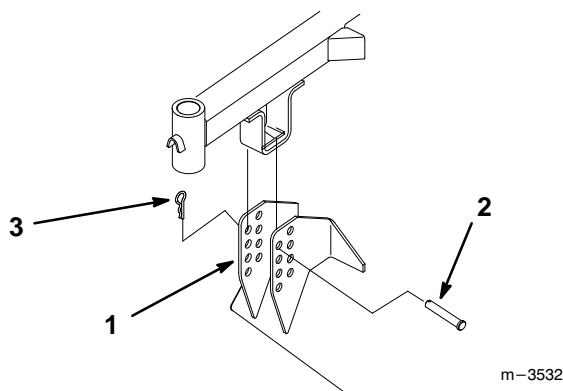

Figure 1
2. Remove hairpin cotters and clevis pins from mower hanger brackets and separate mower from carrier frame (Fig. 1).